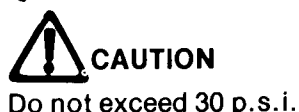

FIGURE 48.
3. Tighten the casing clamp screw. See figure 48.